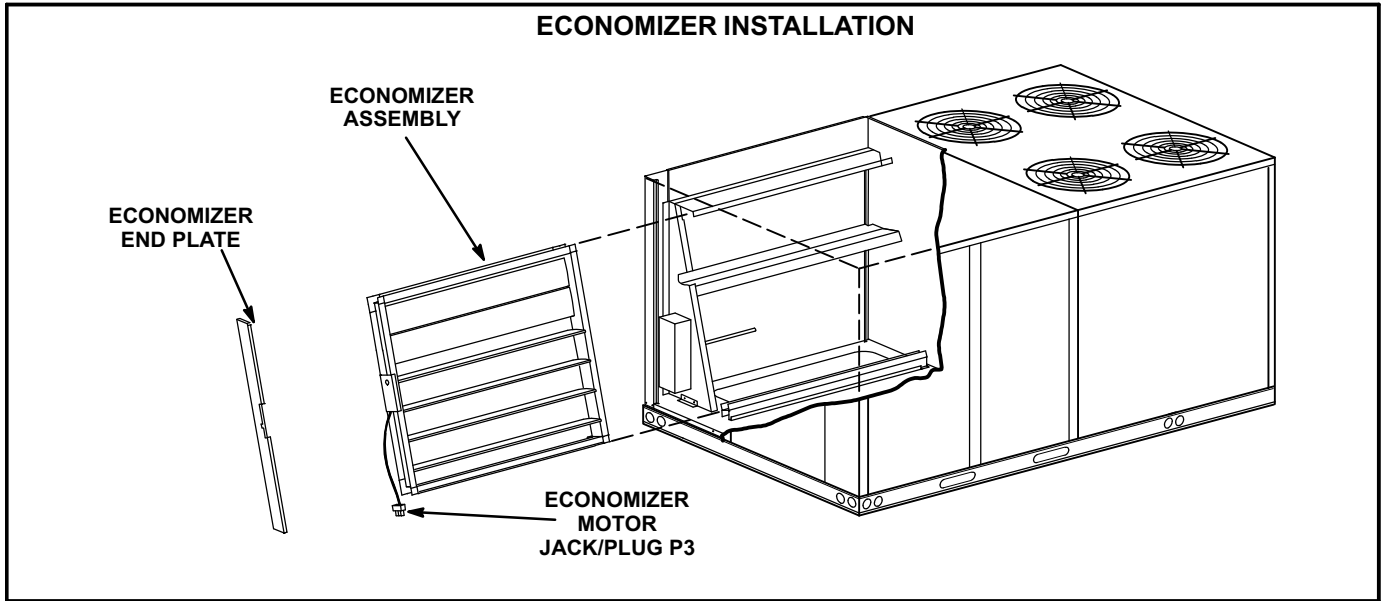
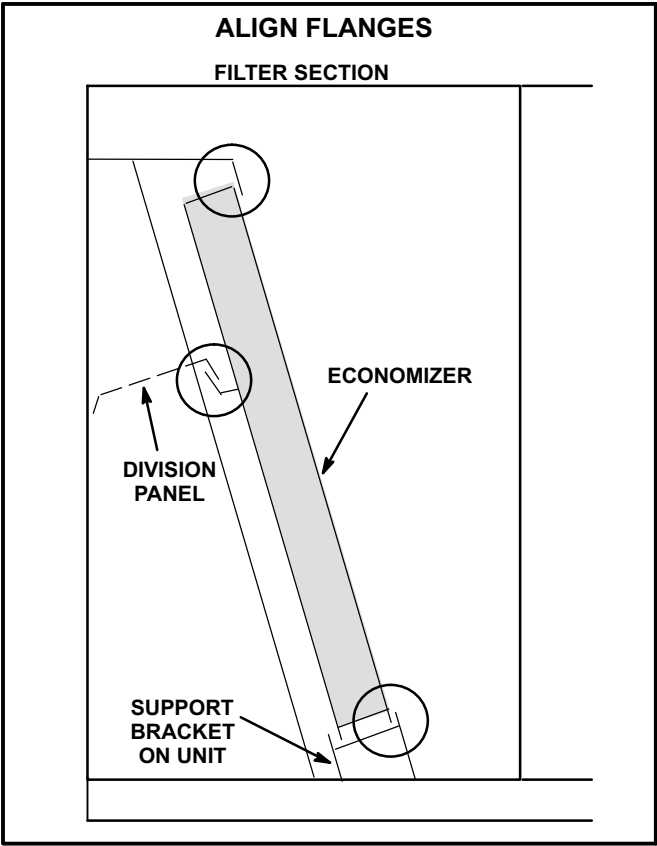

FIGURE 1
FIGURE 2
- 3- Align bottom of economizer with economizer support bracket and slide economizer into unit. See figure 1. Make sure the flanges align as shown in figure 2.
- 1- Install A6 enthalpy control on economizer side panel as shown in figure 2. Secure with #4-40 screws provided.